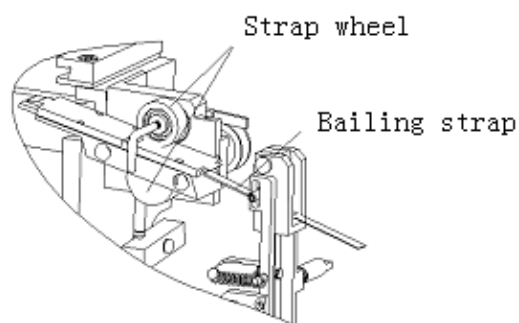

Fig4-3
② After the strap head is pulled out from the upper opening of the strap storehouse, inserted into the strain swing rocker shown as Fig 4-3 and passes through two tape wheels. At this time turn button 3 on the control panel to the position of "SEND" and the bailing strap will be full of strap path. Thus strap-transporting is finished and preparation of bailing is ready.